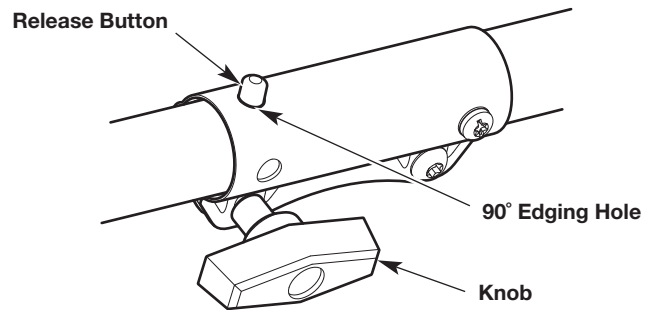

Fig. 17
1. Turn the knob counterclockwise to loosen the coupler (Fig. 17).
2. Press and hold the release button (Fig. 17).
3. Rotate the attachment until the release button snaps firmly into the 90° edging hole (Fig. 17).
4. Turn the knob clockwise to tighten the coupler (Fig. 17).